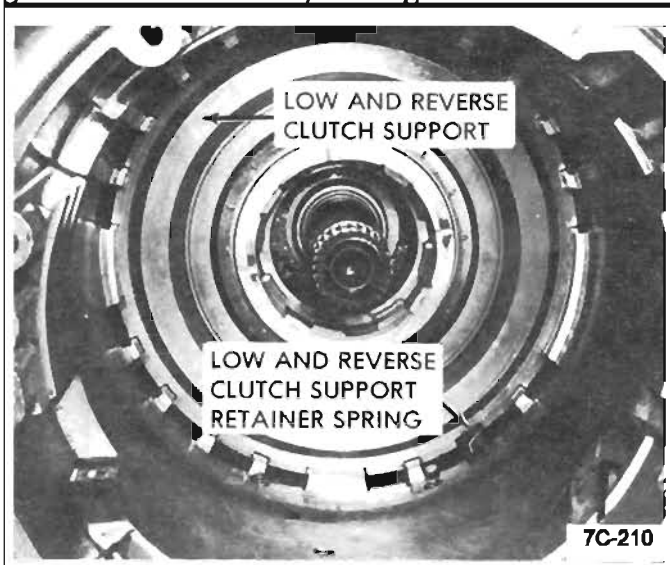

Figure 86 Low and Reverse Clutch Support
3. Install low and reverse clutch support assembly pushing firmly until support assembly is seated past top of low and reverse clutch support retainer spring so retaining ring can be installed. *See Figure 86.*